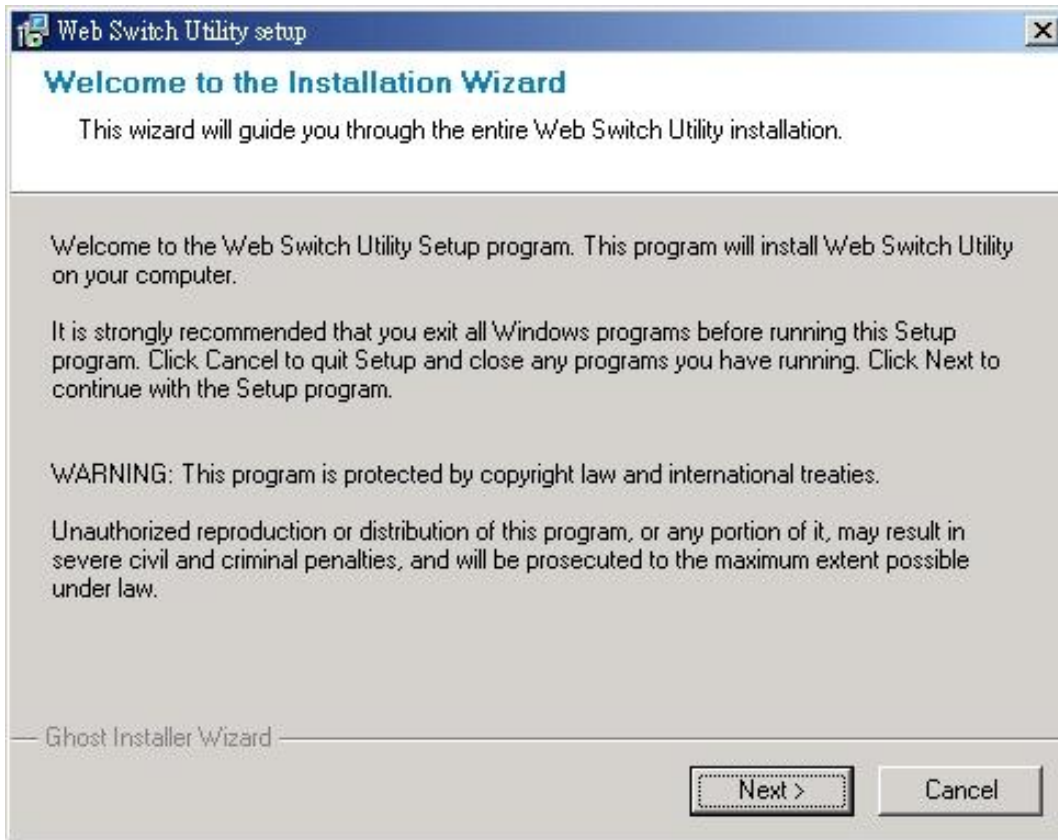

Figure 3-2 Web Switch Utility installation wizard
3. Click on the "Web Switch Utility" link to run the installation program and follow the instructions to install the utility. **Figure 3-2** shows the installation program message which the installation instructions start.